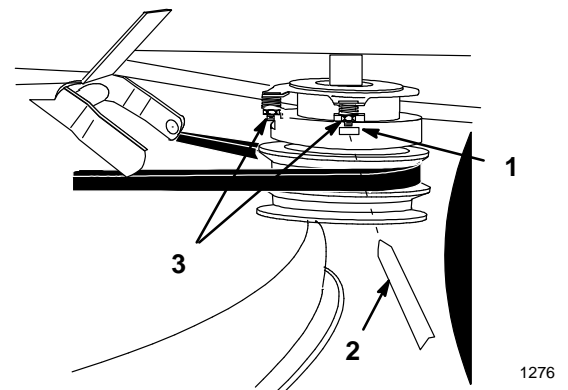

Figure 7
The electric clutch has three (3) adjustment nuts that all must be adjusted the same (Fig. 7).
1. Insert a 0.010 inch (.25 mm) feeler gauge into the slot (Fig. 7).